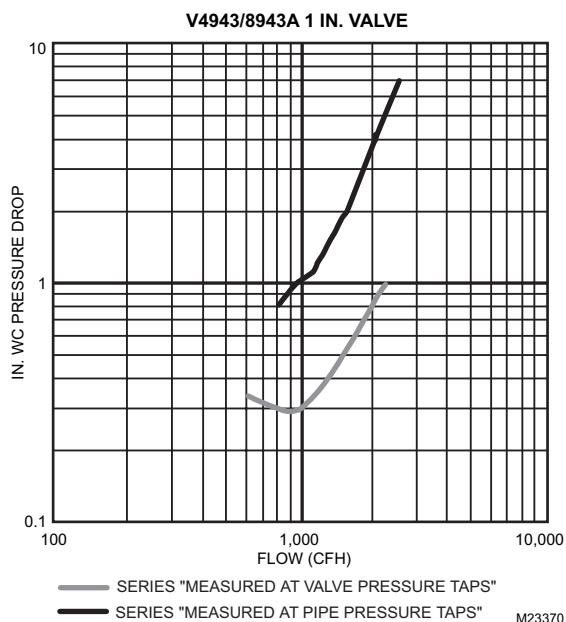

Fig. 2. Capacity vs. pressure drop curves for 1 in. valve.
5. Use the corrected capacity in cfh when determining the gas valve size in Fig. 2–5.
6. Determine the maximum pressure drop across the valve and draw a vertical line at this pressure on Fig. 2, 3, 4, or 5.
4. Find the valve size in Fig. 2–5.